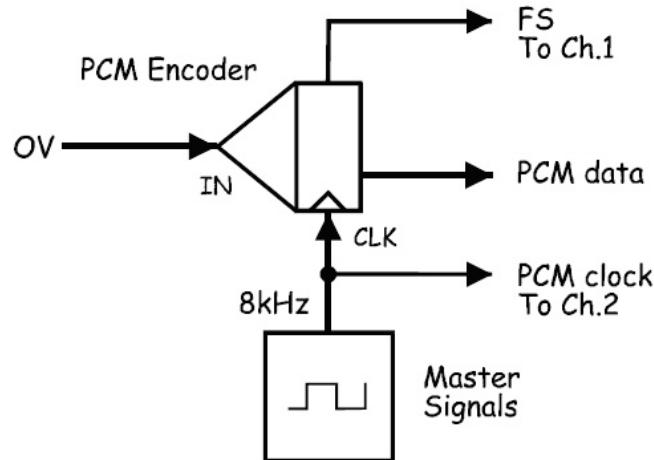

Figure 15: PCM Encoder-0 V message.
- Locate the PCM Encoder module and set its Mode switch to the PCM position. Connect the setup shown in Figure 15.